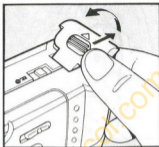

Fig.2 Abb.2 1.2
1. Open the Battery Chamber Cover in the direction of the arrow by pulling it out. **(Fig. 2)**